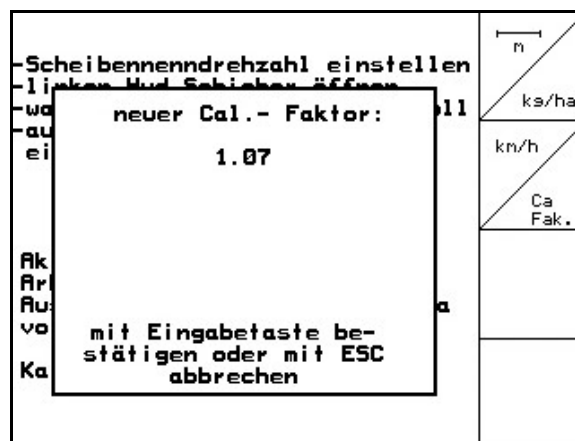

Fig. 55
6. The new calibration factor is displayed and confirmed with , or discarded with  (Fig. 55).